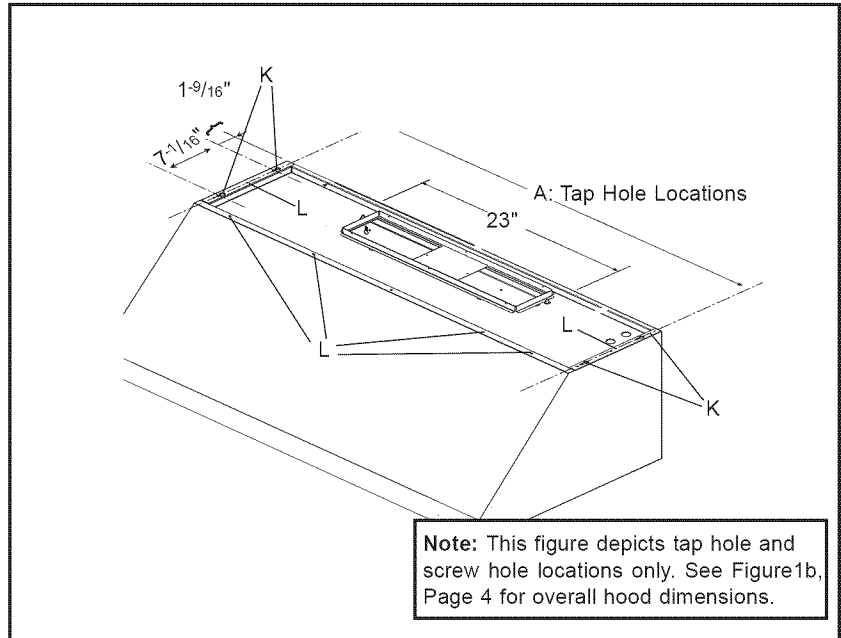

Figure 10: Tap Hole and Screw Hole Locations
Figure 10 shows the four (4) screw holes (K) used for mounting the hood to the bottom of the cabinet.
1. In the base of the cabinet drill 1/8" tap holes (See Dimension A in Figure 10 and in Table). Screw in four #10 x 1" screws (provided with hood) leaving 1/4" exposed).
5. From inside of hood, insert screws supplied. Drill through holes (use #8 x 5/8" screws supplied), one (1) on each side and four along the front, into bottom of the cabinet. See screw holes labeled "L" in Figure 10.
Centerline Hole Dimensions for Figures 10 and 11